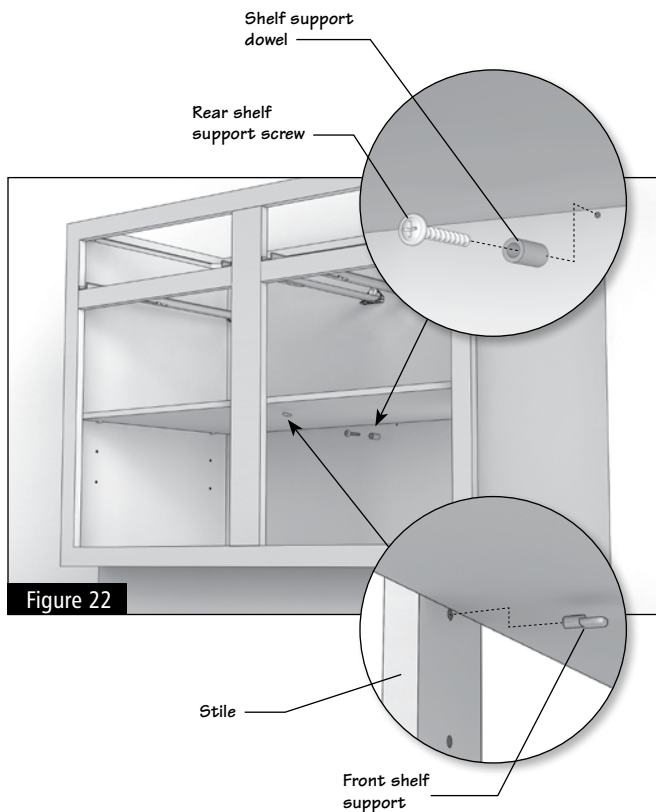

Figure 22
8.2 Install shelves by placing the shelf supports into the holes on both sides of the cabinet, push in completely and turn until the flat side rests upward and place the shelves into position. On wide cabinets, you will also need to insert a shelf rest on the back wall and front stile of the cabinet for added stability using the kit enclosed with the cabinet. (Figure 22)